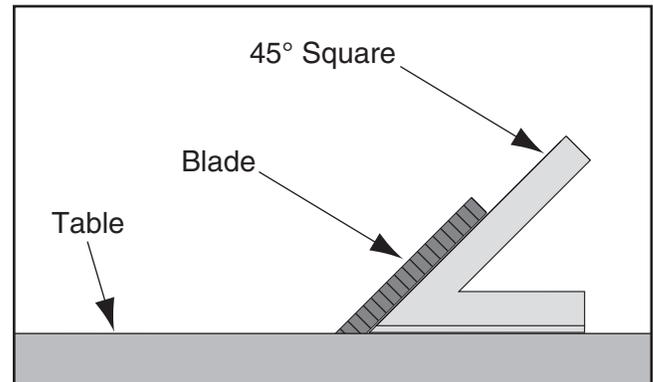

Figure 25. 45° Square flat against table and blade.
6. Use the plus  or minus  key to manually position the blade tilt so it fits flat against the 45° square while the 45° is flat against the table, as shown in **Figure 25**.